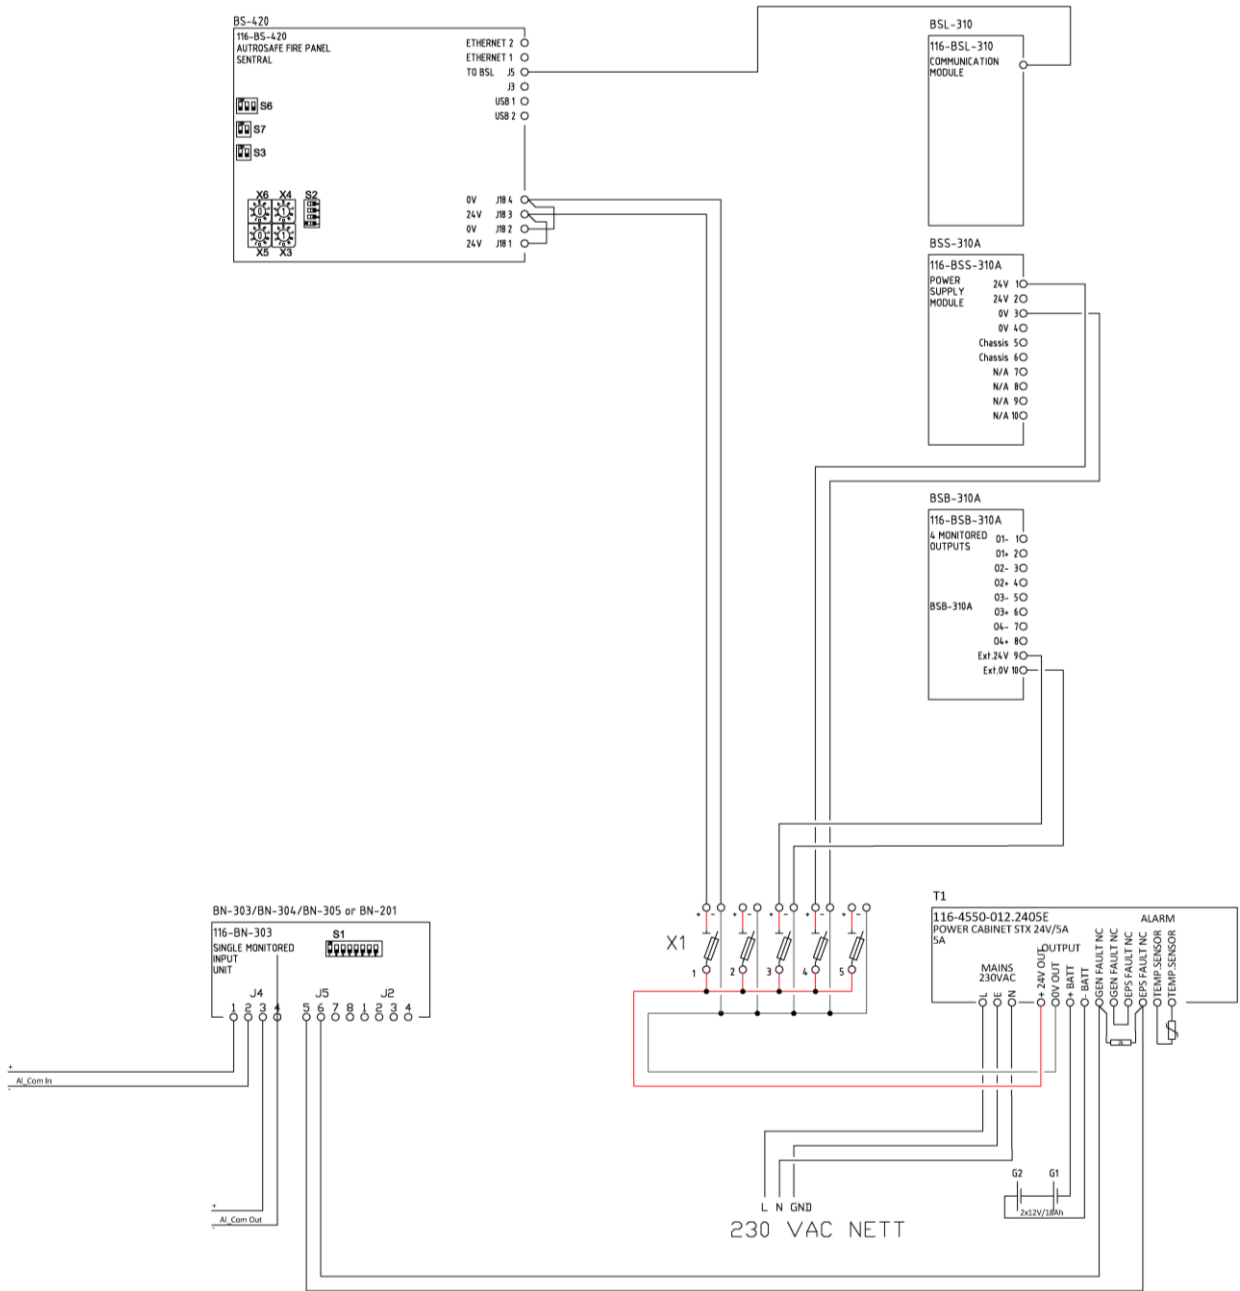
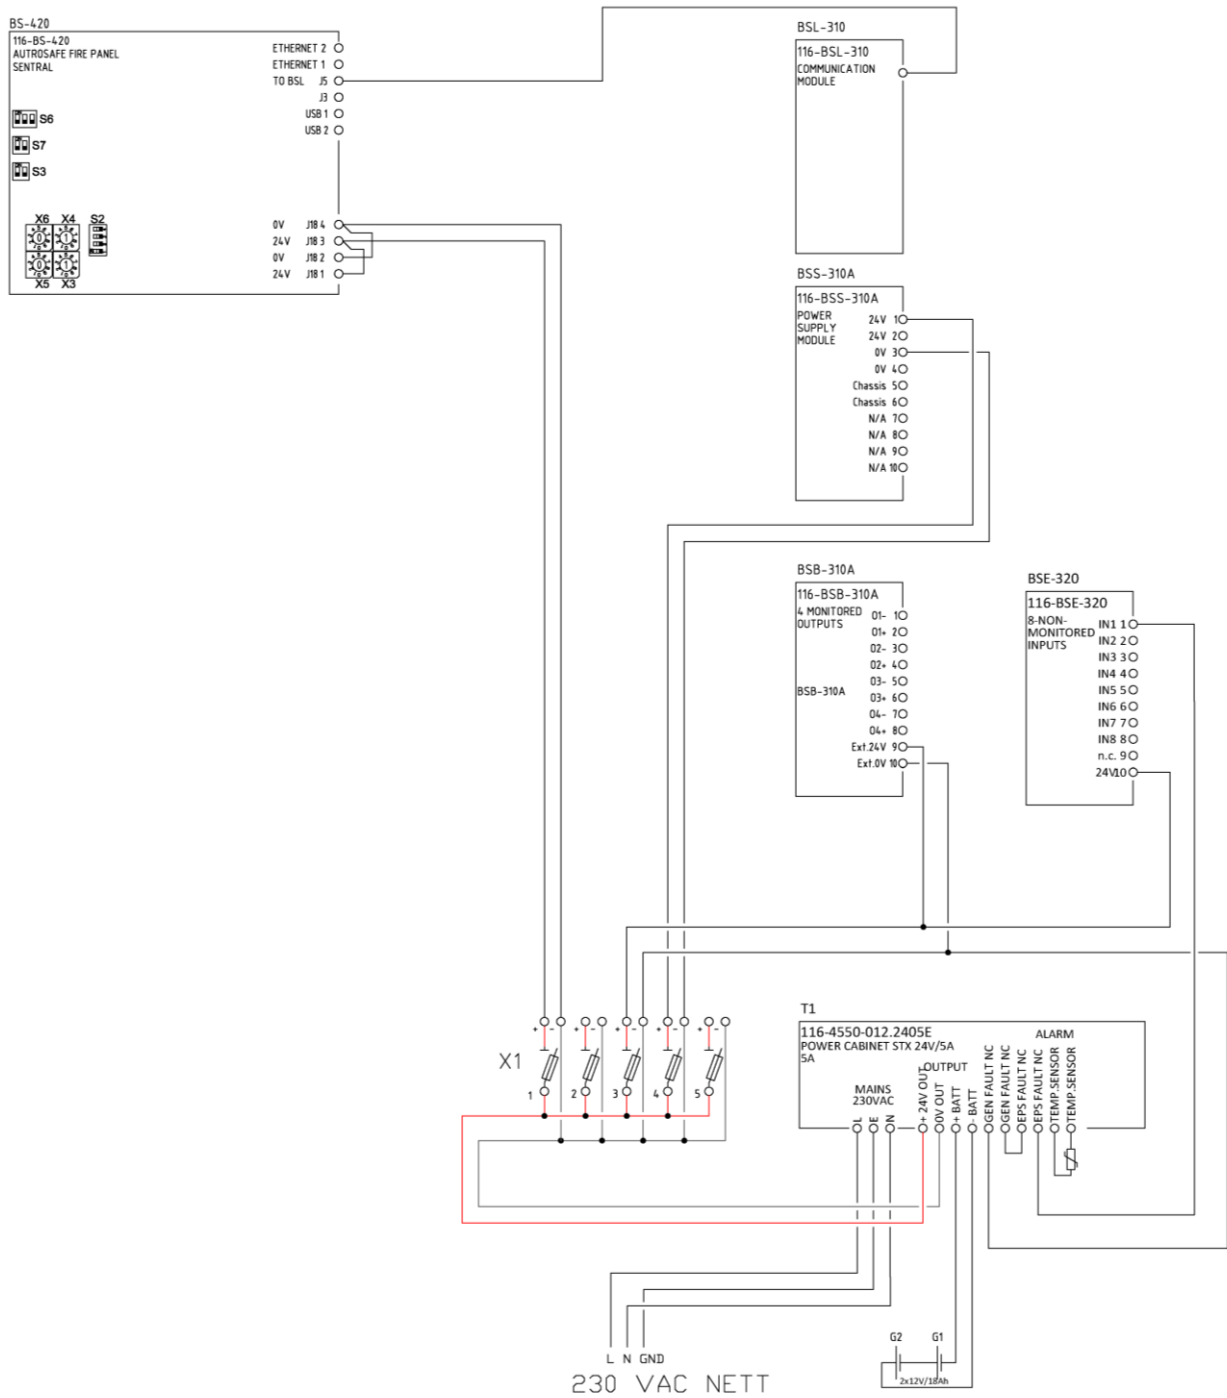

Figure 1: Connection to AutoSafe using IO unit BN-201.
Figure 2: Connection to AutroSafe with Input module BSE-320.
Power supply failures that may occur must be reported to the AutoSafe panel. In order to report such failures, an additional input module is required. In the connection diagrams on the next pages, an additional IO unit, BN-201, (Figure 1) or Input Module, BSE-320, (Figure 2) is shown. Other input modules can be used for this purpose, for example, BN-303, BN-304 or BN-305.
**Figure 1** and **Figure 2** below show different setups for the connections of the power supply to AutoSafe 4. In addition, **Figure 3** shows one example of using the included parts for distributing 24 V power.
**Figure 1** below shows how the power supply connects to AutoSafe 4, this requires an additional IO module (part number 116-BN-201 is standard).
**Figure 2** shows an alternative connection, where an additional Input Module (part number 116-BSE-320) is connected.